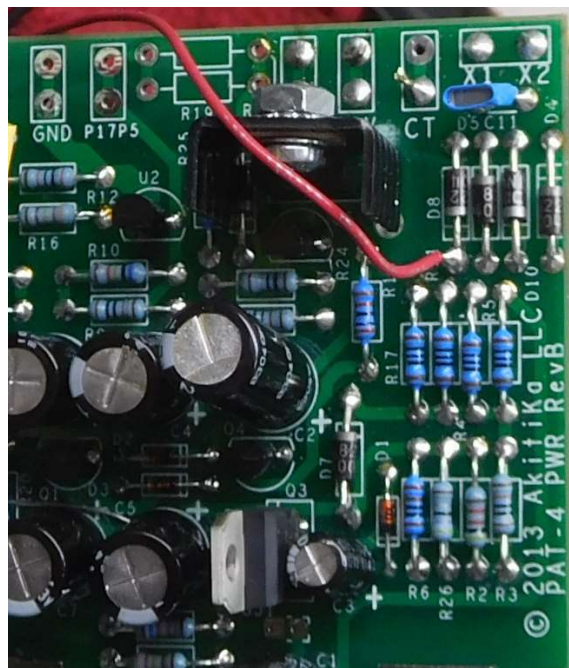

Figure 6-Adding the power good wire to D8's cathode
4. You can wrap it around the lead on the component side and solder it. This connection forms a "power good" signal that is used by the muting and timing circuits. See Figure 6.